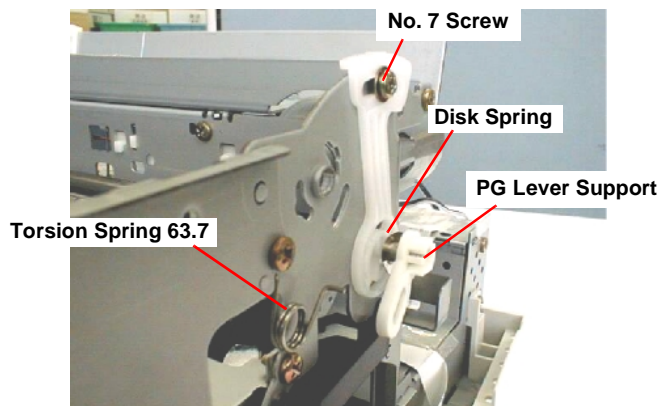

Figure 4-47. Removing the Torsion Spring 63.7 & PG Lever
- 8) Using tweezers, remove the Torsion Spring 63.7 hung onto the right side of the Top Frame and PG lever. Refer to Figure 4-47.
- 9) Release the fixed hook of the PG Lever Support, then remove the PG Lever Support and Disk Spring (6.2x0.15x1, S/NA) from the right end of the CR Guide Shaft. Refer to Figure 4-47.
- When installing the Disk Spring (6.2x 0.15x1,S/NA), pay attention to its direction. Set the convex side facing to the right. Refer to Figure 4-47.
- When installing the PG Lever, refer to the Figure 4-47.